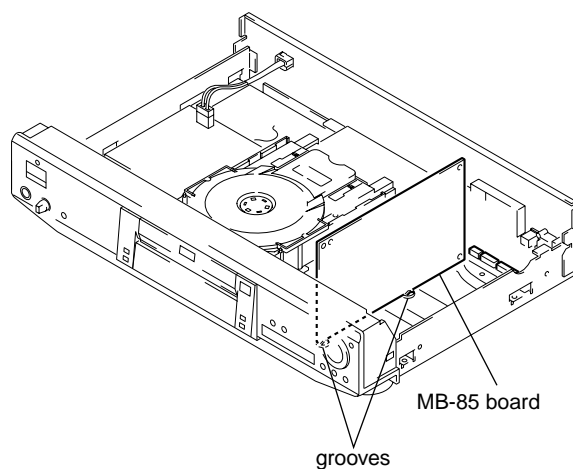

Fig. 3
- 3) Set the MB-85 board as shown in Fig. 3.